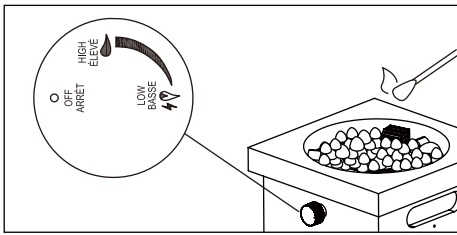

Figure 8
6. Push and turn control panel counterclockwise to “High” position (See Figures 8).